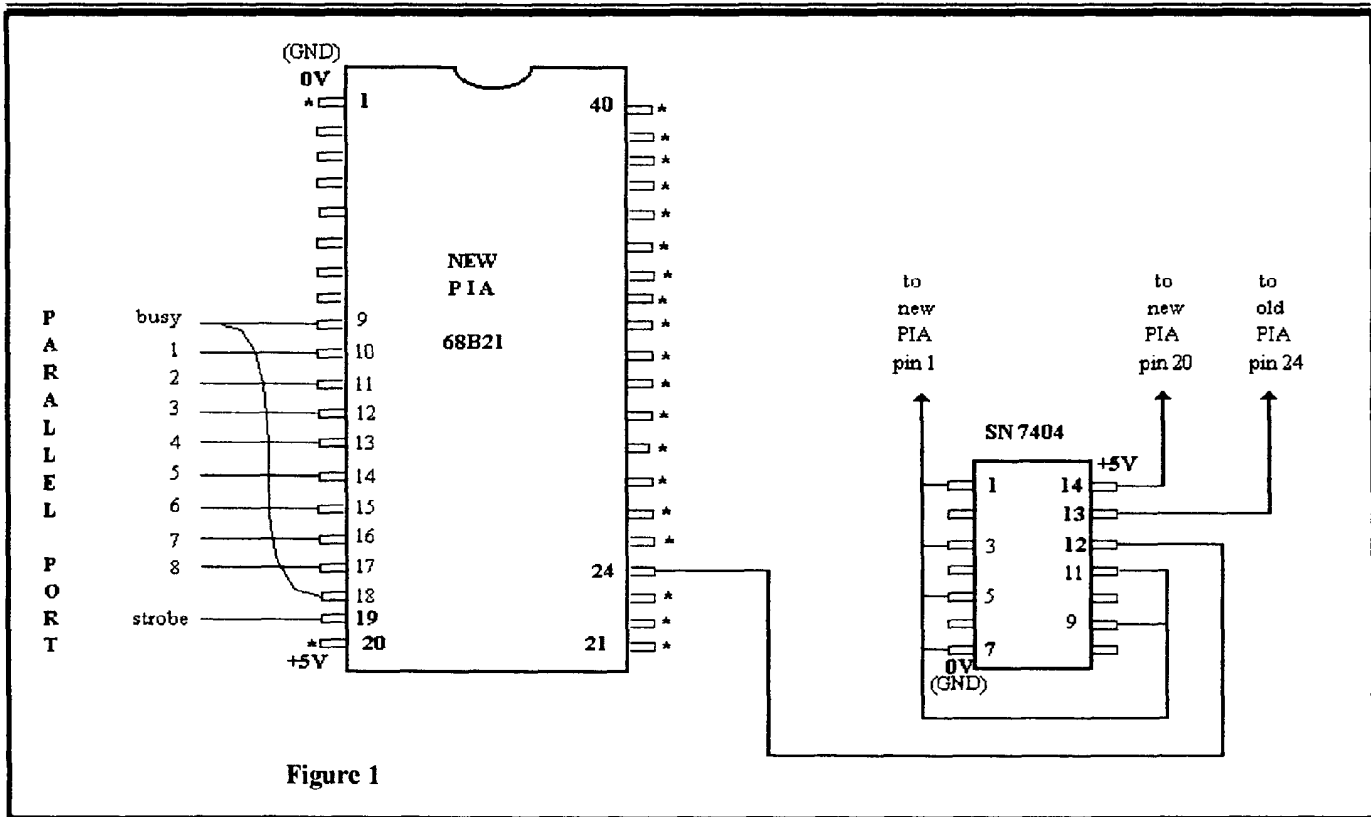

Figure 1
**CONSTRUCTION:** Study the schematic diagram (figure 1). Note the asterisk (or stars) located next to pins 1, 20, 21 - 23 and 25 - 40 on the 68B21 PIA chip. The stars indicate the pins on the 40 pin IC socket that are soldered to the original 68B21 PIA chip in the CoCo, labeled IC4 (at least that's what it says on my CoCo-3). All of the pins that are not marked with a star should be bent up so that when the socket is placed over the PIA (IC4), the socket pins will not come in contact to the corresponding pins on IC4.